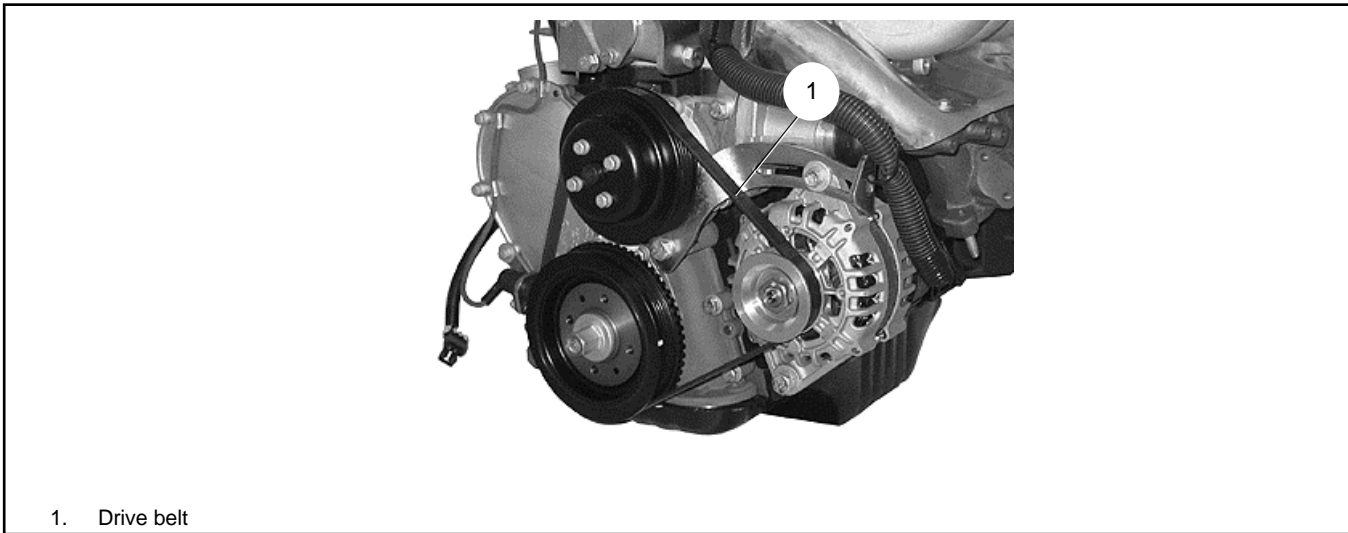

Figure 27 Drive Belt Location
2. Locate the drive belt. See Figure 27.